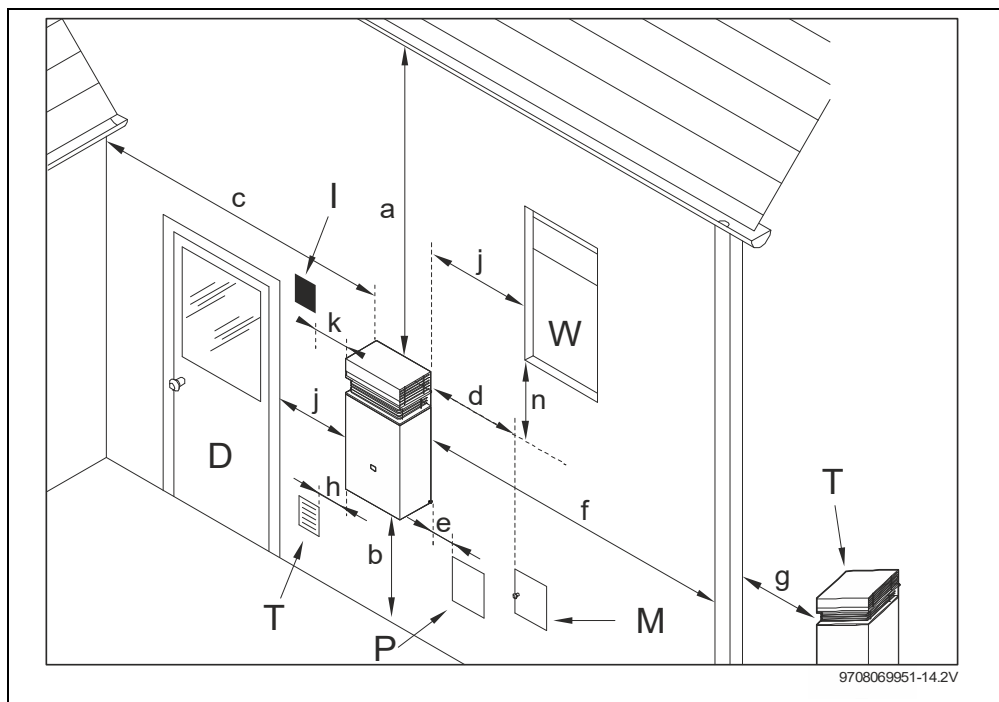

Fig. 5 Minimum clearances (use as a guide only, always refer to AS/NZS5601)
- Install the appliance in accordance with the minimum installation clearances indicated in Fig. 5, according to AS/NZ5601.